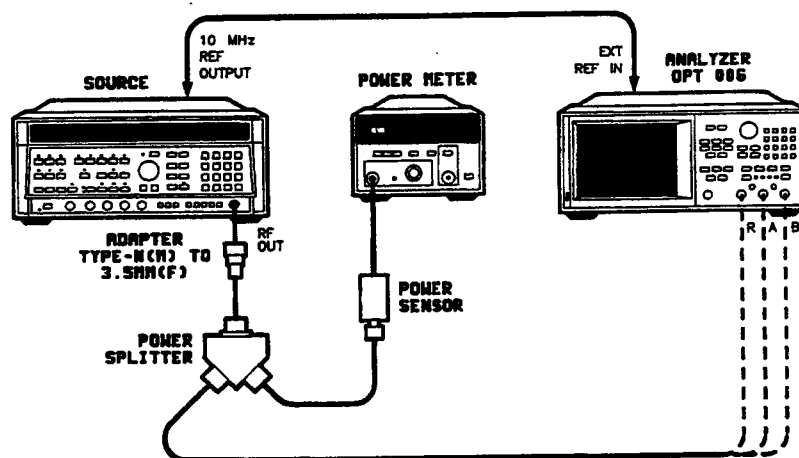

Figure 36. HP 8753B/C, HP 8702B Option 006 Compression Test Setup
1. Connect the equipment as shown in Figure 36 and allow one hour warm-up.
1. Zero the power meter and set it to measure dBm. Connect the equipment as shown in Figure 36, with the RF cable at input R. Preset the source and analyzer.